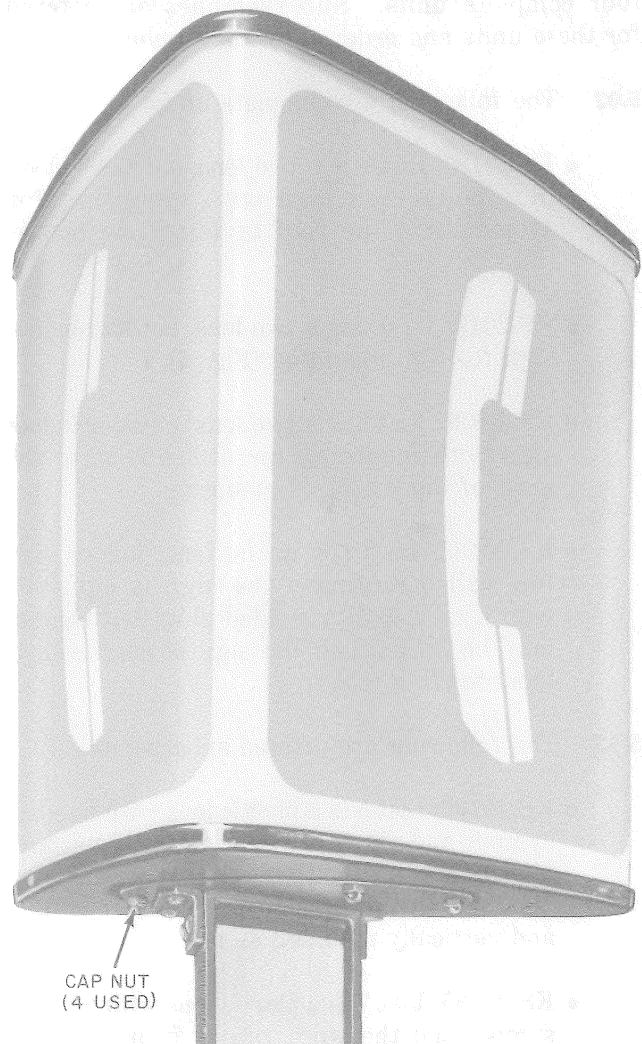

Fig. 21—KS-20031, List 1 Sign Mounted on KS-19426, List 39, 40, or 41 Mast
(5) Install lamp in fixture.
(6) Install List 2 lens assembly over fixture and secure with the four cap nuts removed in (1) (Fig. 21).